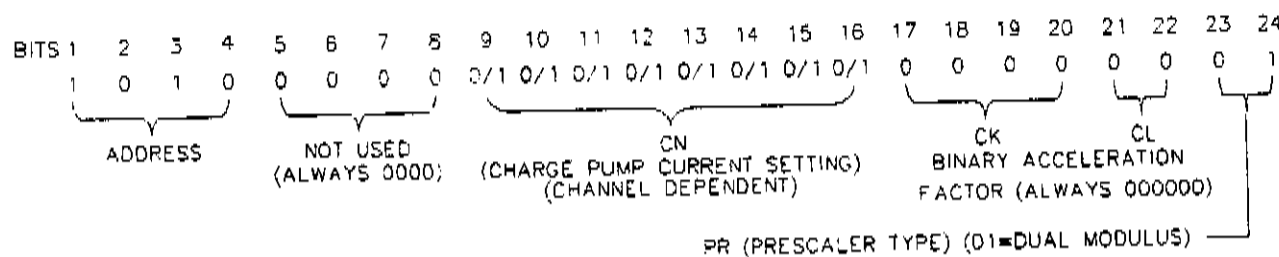

Figure 3-2 B-WORD
The B-Word is 24-bits long (see Figure 3-2). contains the Address, Charge Pump setting factor (CN), Binary Acceleration factors (CK, CL), and Prescaler Type (PR).